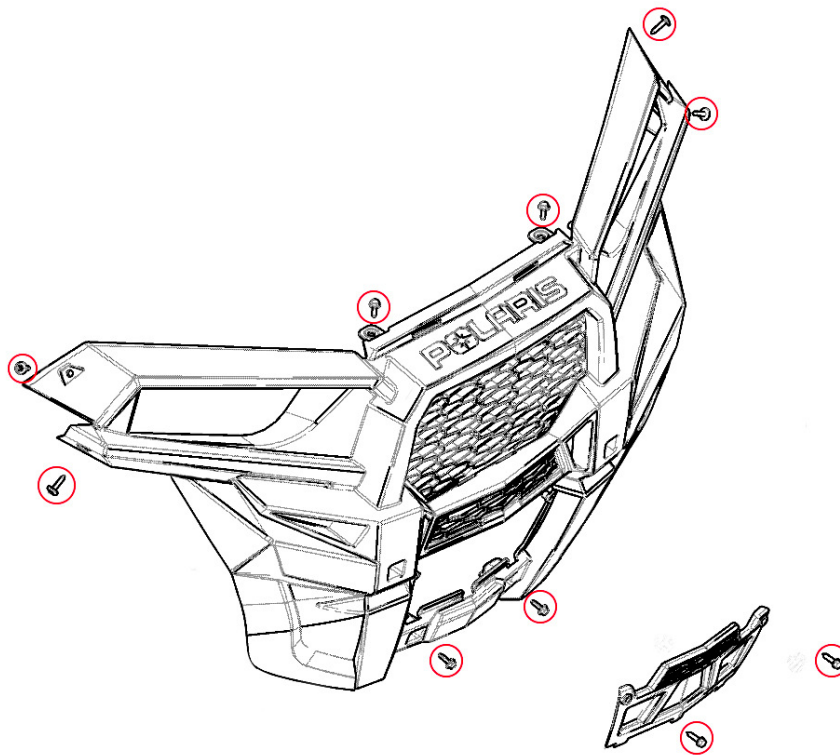

Figure 1
- 2) To remove the plastic brush guard, first unclip the two head light wiring harnesses. Then remove the plastic winch cover plate using the appropriate socket size. Lastly, remove the eight (8) T40 Torx screws as shown in Figure 1. Set the brush guard aside.